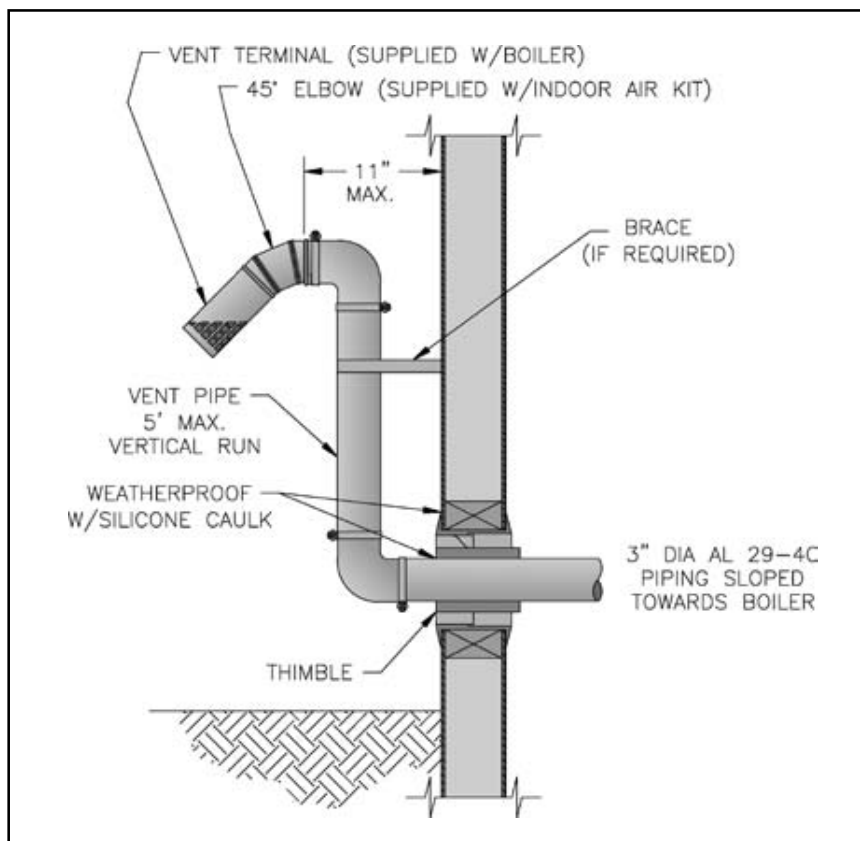

Figure 25: Optional Indoor Air – Vent Terminal Installation
- c. Install maximum of five (5) feet of AL 29-4C® vent pipe. Refer to Sections C through E for proper procedures for joining vent pipe and fittings.
- e. If installation requires indoor air, install AL 29-4C® 45° elbow (provided in indoor air kit) to upper AL 29-4C® 90° elbow so that leg of 45° is in down direction (see Figure 25). If not using indoor air, proceed to Step f.
- c. Install maximum of five (5) feet of corrosion resistant air intake pipe.